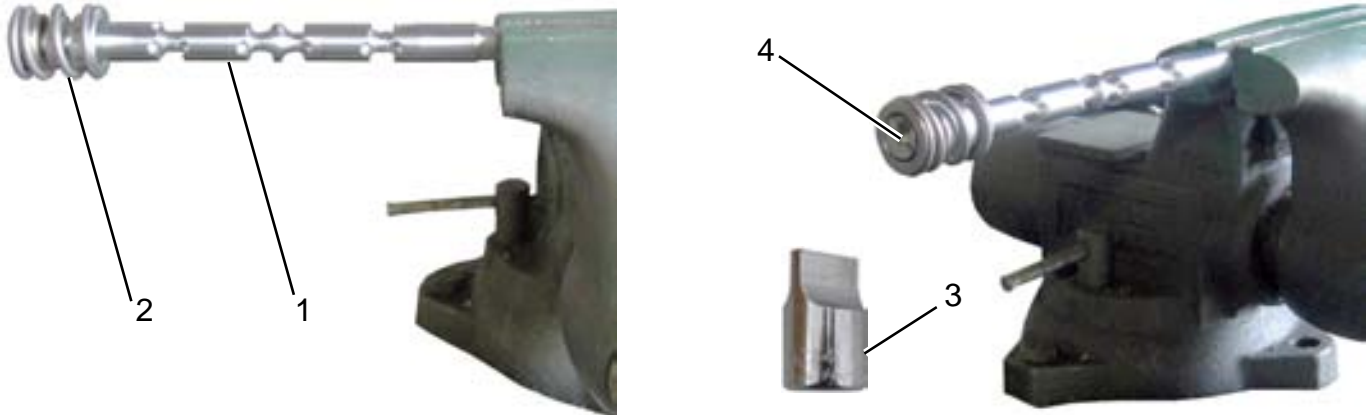

Figure 13
- Clamp the spool assembly (**Figure 13, 1**) in a vise with the centering spring assembly (**Figure 13, 2**) away from the vise.
- Using the wide-tip adjustment bit (**Figure 13, 3**) provided in the kit, remove the stripper bolt (**Figure 13, 4**) securing the centering spring assembly.
- Using the wide-tip adjustment bit (**Figure 13, 3**) provided in the kit, install the centering spring assembly to the spool.